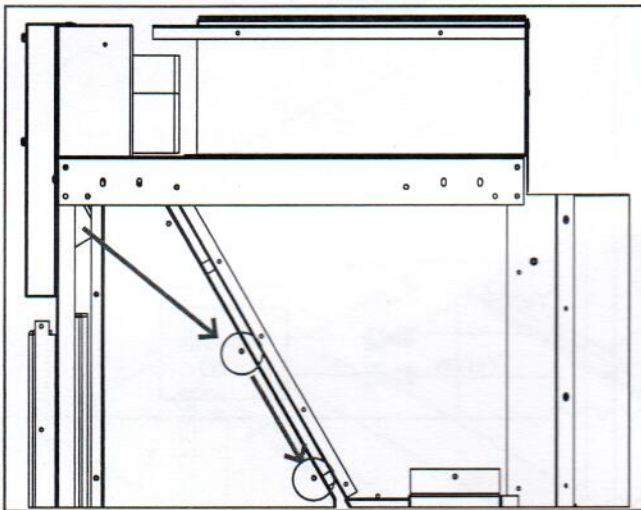

Figure 20: Wiring path
- With the Front Grill and Vent removed feed the wires inside the front assembly through the opening on the right side shown in Figure 20. Use the supplied screw mount wire ties to secure wires at circled screws.